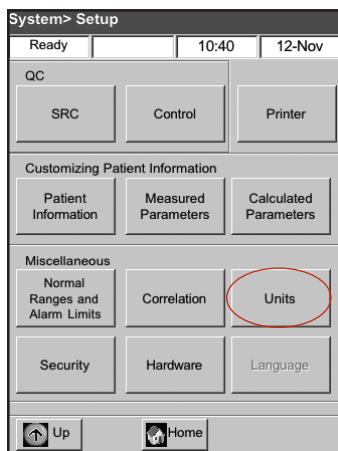

Figure H-17: System> Setup screen
3. From the Setup screen, tap **Units** (Figure H-17).